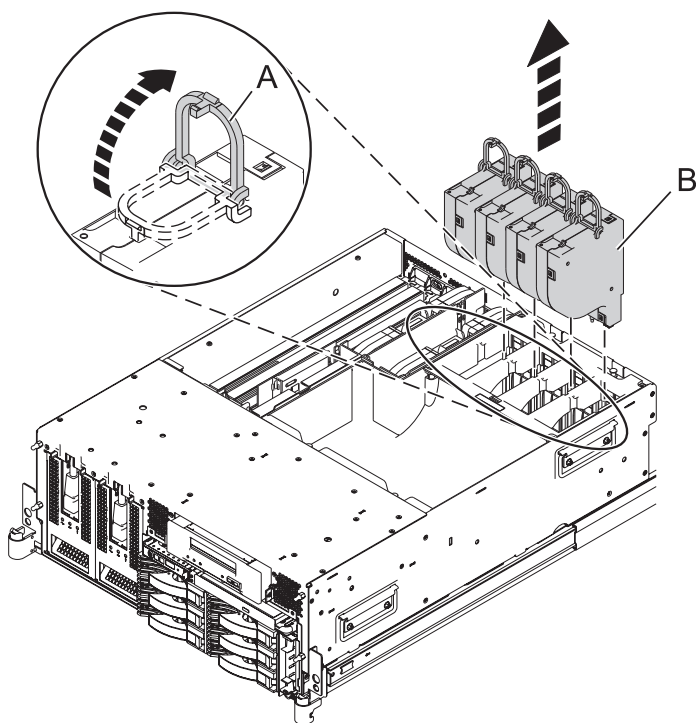

Figure 14. Removing the fans
6. Remove the fans by lifting each of the fan pull tabs **(A)** and lifting the fans **(B)** out of the system as shown in Figure 14.